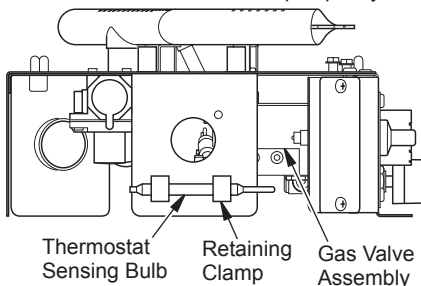

Figure 31 - Location of Gas Valve Assembly and Thermostat Sensing Bulb
1. Locate the gas valve assembly and thermostat sensing bulb (see Figure 31).